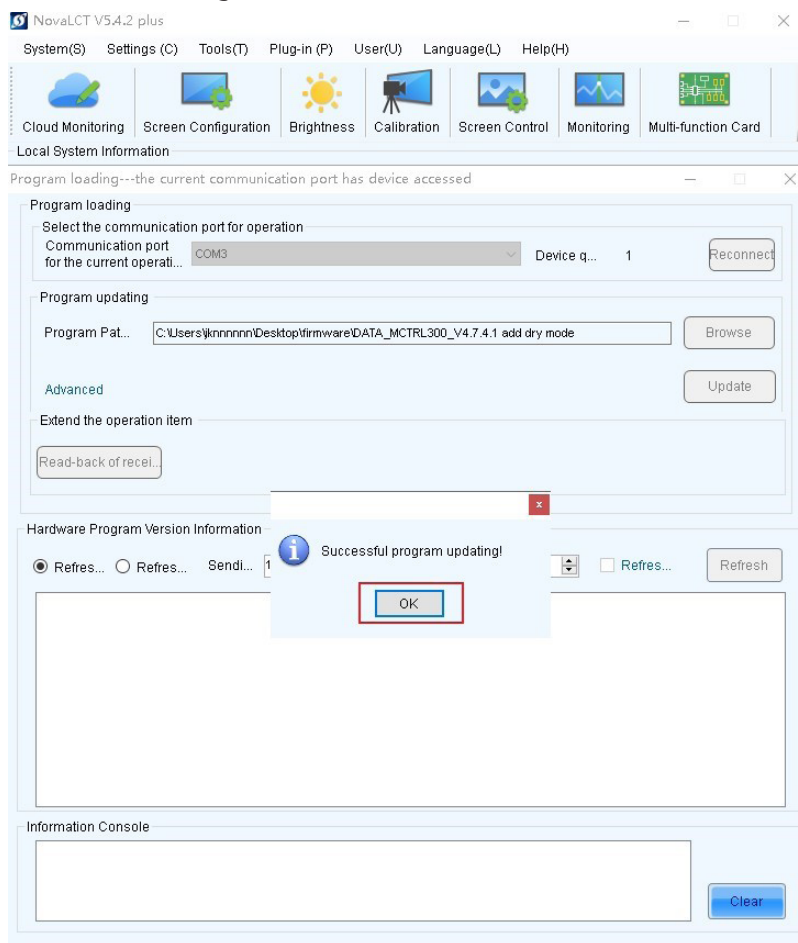

Figure 1-7
7. After the update is complete, click **OK**. See Figure 1-7.